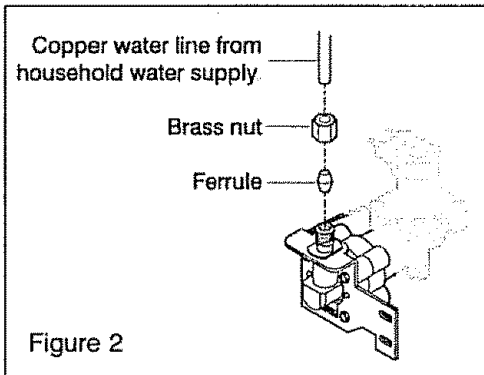

Figure 2
3. Install WATER SUPPLY LINE as follows (Figure 2):